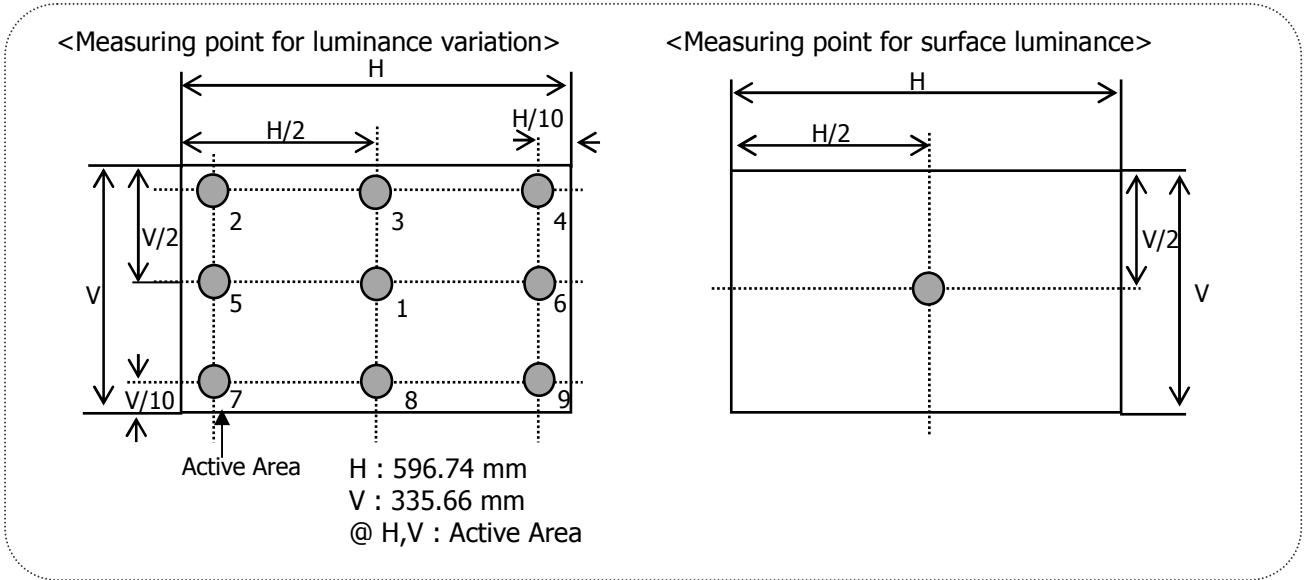

FIG. 4 Measure Point for Luminance
2. Surface luminance(L_{WH}) is luminance value at 5 points average across the LCD surface 50cm from the surface with all pixels displaying white. For more information see FIG 4.
For more information see FIG 4.